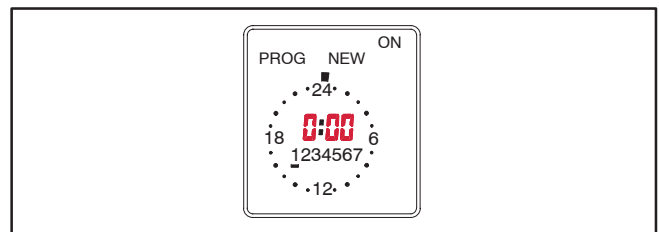

**FIGURE 9. SETTING THE DAY OF THE WEEK THE EXERCISE IS TO BEGIN**
- 2.. The selector button (⬇️) will be pointing at **PROG NEW**. Press the **OK** button again. “ON” is displayed in the top right corner of the screen and the first day of the week is underlined (see Figure 9).